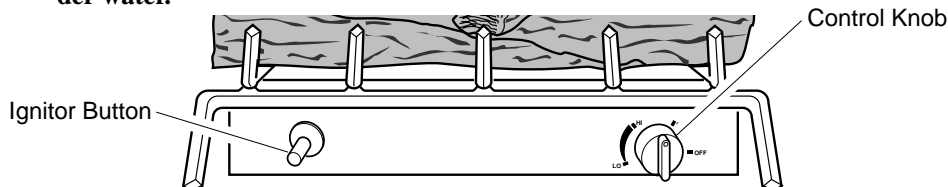

Figure 21 - Control Knob and Ignitor Button Location
- Wait five (5) minutes to clear out any gas. Then smell for gas, including near the floor. If you smell gas, STOP! Follow "B" in the safety information in column 1. If you don't smell gas, go to the next step.
- Slightly depress and turn control knob counterclockwise to the PILOT position. Keep control knob pressed in for five (5) seconds (see Figure 21).